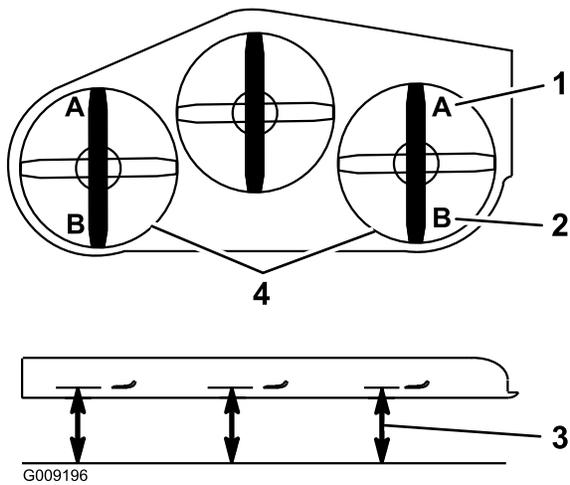

**Figure 93**
5. Push the deck-lift pedal all the way forward so that the deck latches at the 14 cm (5-1/2 inches) transport position (Figure 93).